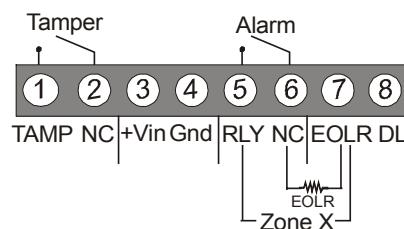

Figure 1: Terminal Block
- Connect the wires to the terminal block (as shown in Figure 1). **Note: This equipment should be installed in accordance with the NFPA 70 standard.**
Terminal 7: Optional end of line resistor - see Figure 1.